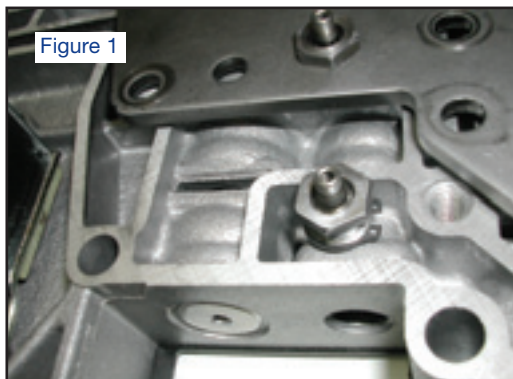

Figure 1
1. Reference Figures 1 & 2 to mark the centering punch location on the support plate (filter side). The location should be .500" from the edge of the plate, and .620" from the edge of the indicated plate hole.